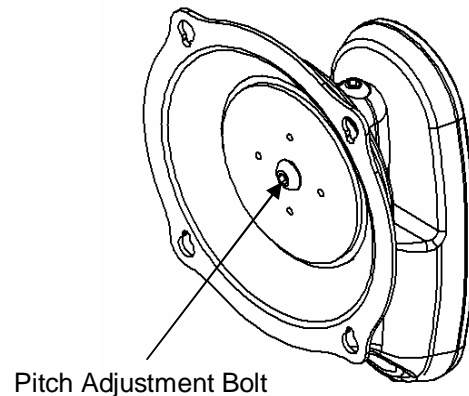

Figure 17. Adjust Pitch Tension
- b. Using a 3/16" hex wrench, slightly tighten or loosen pitch adjustment bolt to adjust Centris Bracket as needed (see Figure 17).